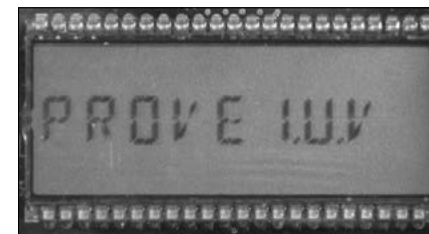

Figure 14.10 - LCD screen changes to PROVE I.U.V
- B. After five seconds, the display will change to **PROVE I.U.V** (Figure 14.10).